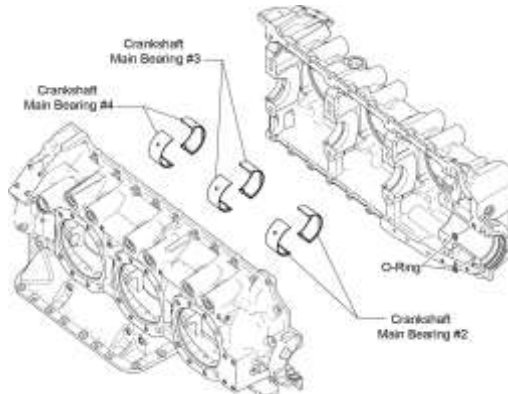

Figure 66
- C. Install the two new O-rings (Figure 66).